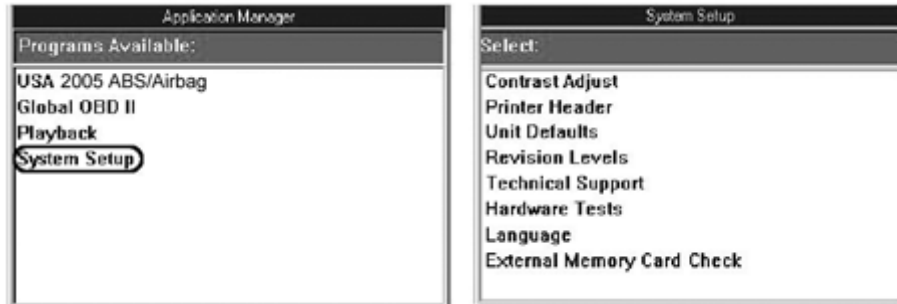

Figure 2.2: Application Manager Screen and System Setup Screen
- 2 Use the **Down Arrow** key to select **System Setup** and then press the **ENTER** key. This displays the System Setup screen, shown in figure 2.2.